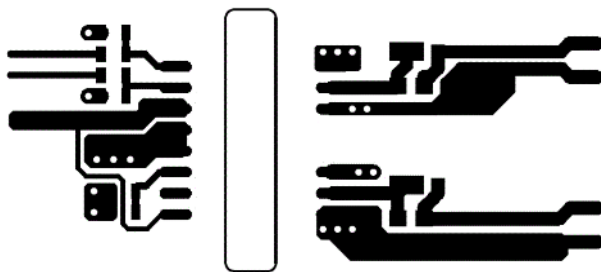
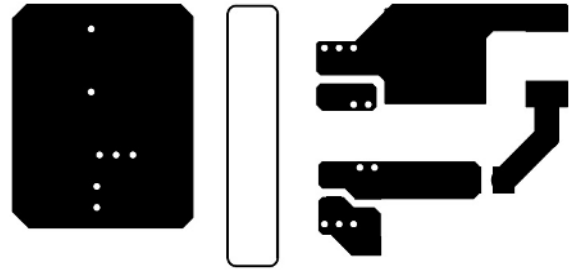

Figure 12-2. Top Layer Traces and Copper
Figure 12-3. Bottom Layer Traces and Copper (Flipped)
- Increasing the PCB copper connecting to VDDA, VDDB, VSSA and VSSB pins is recommended, with priority on maximizing the connection to VSSA and VSSB (see Figure 12-2 and Figure 12-3). However, high voltage PCB considerations mentioned above must be maintained.
Figure 12-2 and Figure 12-3 shows top and bottom layer traces and copper.